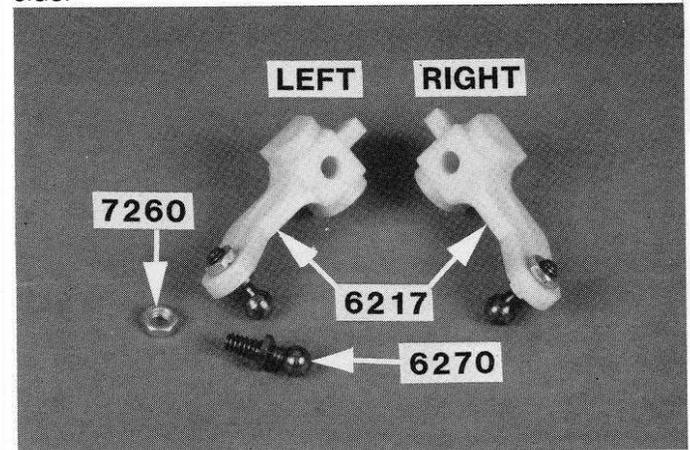

Fig. 2
□ **Fig. 2** Again from Bag 6-14 and 7-1, screw the short #6270 ball end into the #6217 steering block and secure it with the #7260 nut as shown. Assemble the right hand side.